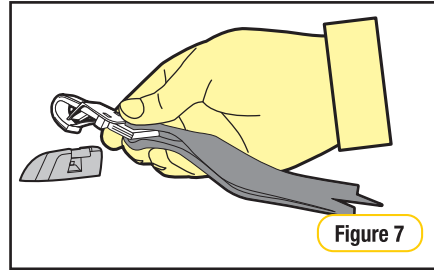

Figure 7
Step 5: Hook the attachment clip to the anchor fitting. Ensure there are no twists in the top tether strap (Refer to Figure 7)